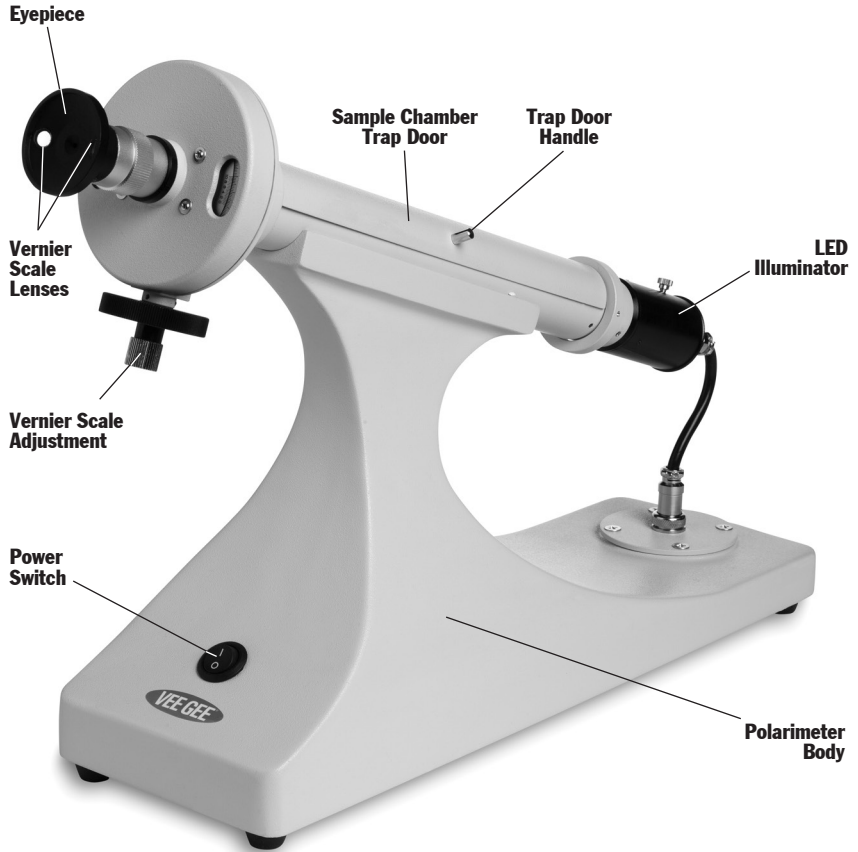

Figure 1
3. Using a Phillips or slot screwdriver unthread the fuse holder (figure 1) and visually inspect the filament inside the fuse. If the filament is burnt or the inside of the fuse is blackened then replace the fuse. Use only the correct fuse. NEVER use a fuse that is rated higher than what came with the instrument.